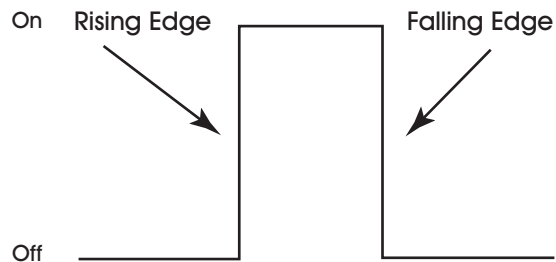

Figure 3-2: Rising and Falling Edges of a Pulse
The **(MD) Pulse Counter Mode** property defines how the NB-GPC3 will detect a pulse. There are two ways that a pulse can be detected, by sensing the rising edge of the pulse (**MD=0**), the falling edge of the pulse (**MD=1**), or both (**MD=2**). The differences between the rising edge and falling edge of the pulse are shown in Figure 3-2.